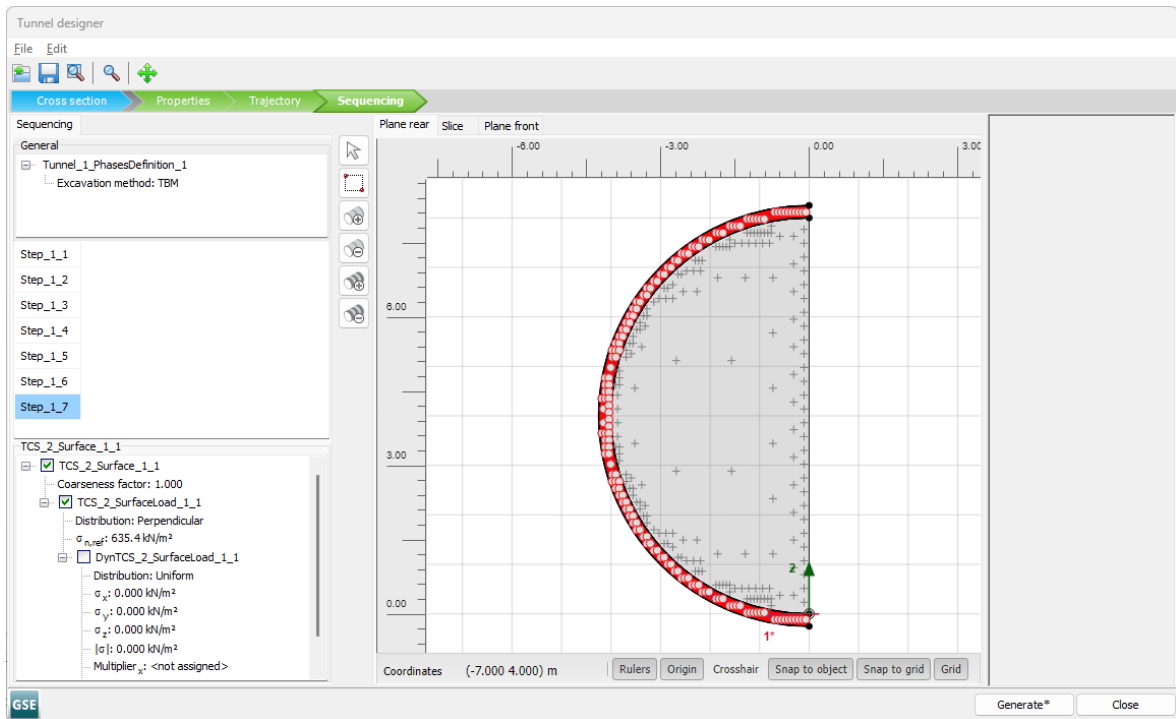

Figure 78: Plane Rear tabsheet Tunnel designer <Step_1_7> Application of jack forces
- In the **Selection explorer**, activate the **Surface load** and select the *Perpendicular* option for the distribution with $\sigma_{n,ref} = 635.4 \text{ kN/m}^2$ (Figure 78 (on page 104)).